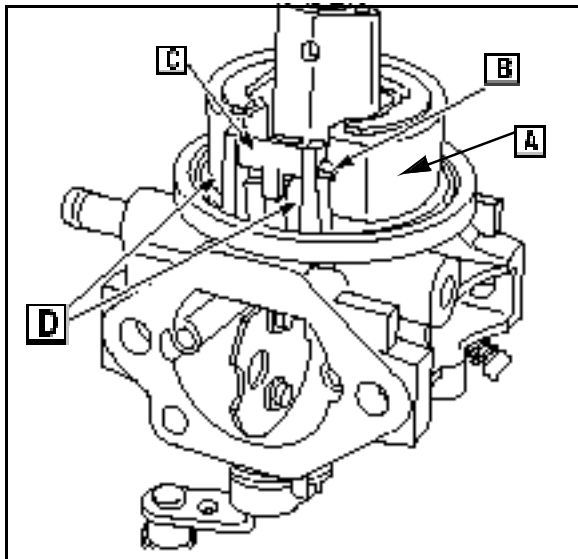

Fig. 90
16. Place float assembly (A) in carburetor, Fig. 90.
17. Insert the small end of the float hinge pin (B) by hand until pin is through the float hinge (C) and both hinge pin posts (D), Fig. 90.